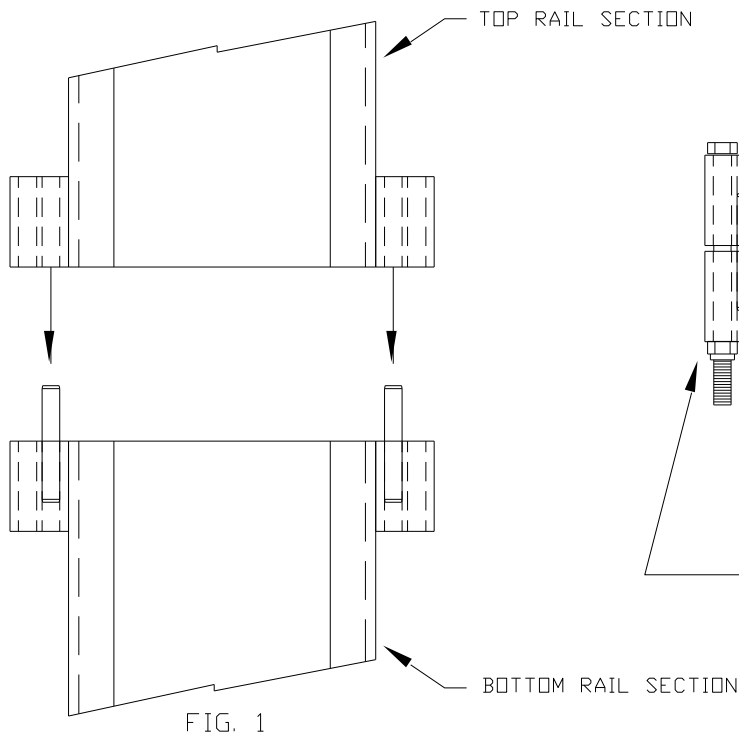

FIG. 1
1. INSTALL BOTTOM RAIL SECTION, DO NOT PLACE RAIL MOUNTING SCREWS IN TOP TWO SETS OF RAIL SCREW HOLES. NOTE THE BOTTOM RAIL CONTAINS FOUR (4) DOWEL PINS SHIPPED IN THE SPLICE BLOCKS.
3. PLACE TOP RAIL OR NEXT LABELED SECTION OF RAIL OVER THE DOWEL PINS. THEN GUIDE THEM INTO THEIR RESPECTIVE HOLES. (FIG. 1)